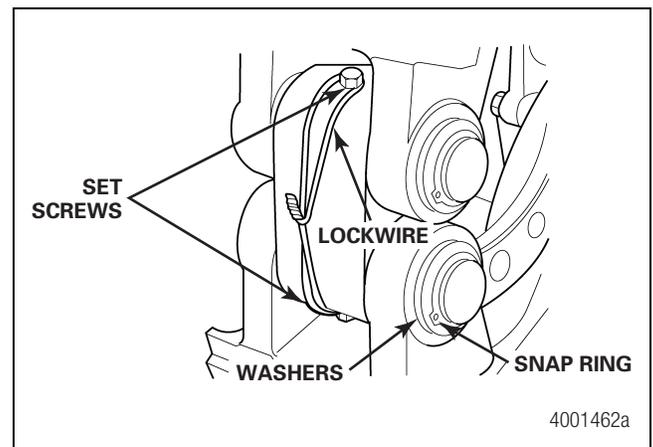

Figure 4.2
2. Remove the anchor pin snap rings, washers, set screws and lock wire. Figure 4.2.